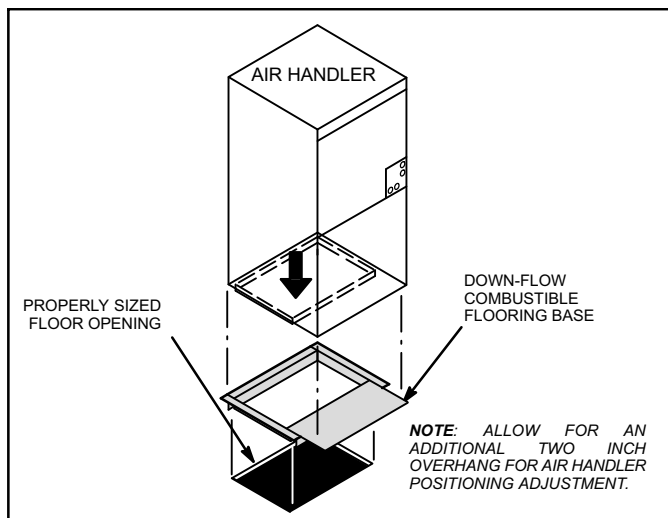

Figure 2. Downflow Combustible Flooring Base
2. After opening has been made, set the base into the opening as shown in figure 2.